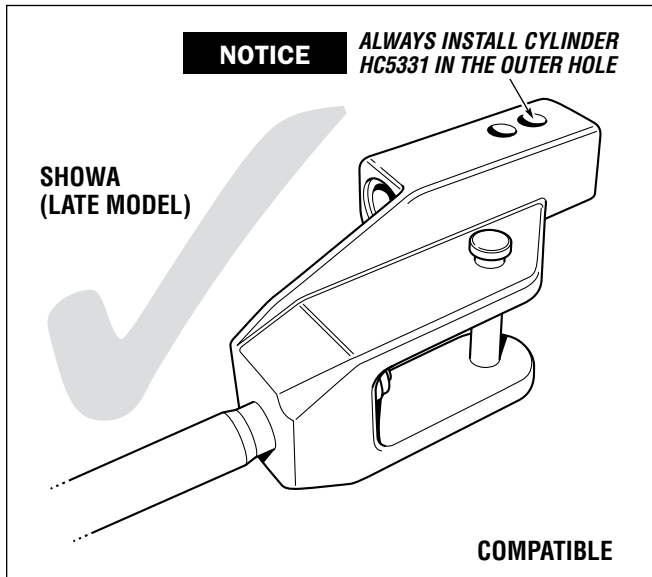
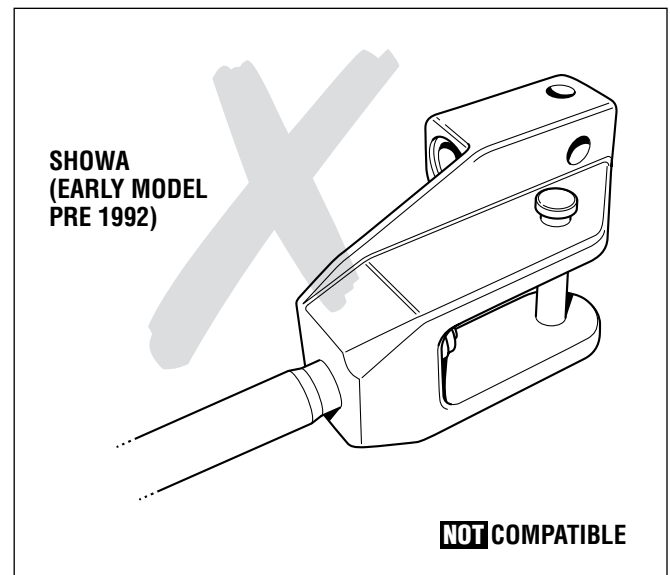

Figure 10.
Figure 13.
*The Teleflex HC5331-3 steering cylinder is NOT compatible with some early model power steering rams. Although the cylinder will still mount to these rams, loss of articulation and possible damage to the steering ram may result. Please identify your power steering cylinder by comparing your clevis bracket to the 4 drawings shown below. The HC5331-3 IS compatible with units identified by figures 10 to 12, it is NOT compatible with the clevis bracket shown in figure 13.*